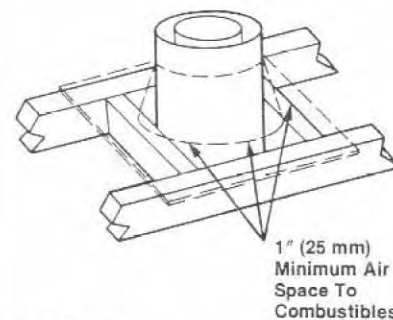

Figure 29
**Note:** Assemble one complete section of chimney at a time (inner section first, then outer section last) before proceeding with the next complete section. Continue to build flue pipe assembly up through framed ceiling openings and roof frame opening. Assemble just enough to penetrate the roof and flashing openings (Figure 29). Always maintain 1" (25 mm) minimum air space to combustible materials and always check each pipe joint (inner and outer) to ensure proper engagement. Check vertical alignment of flue pipe so that it projects the roof in a true vertical position. Use level if necessary to ensure proper vertical position.